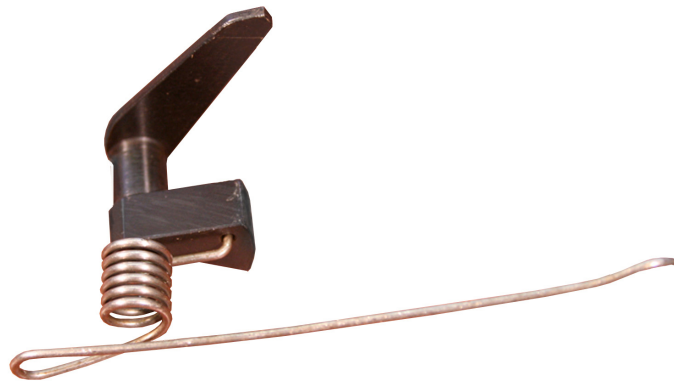

Figure 60. The Short Leg of the Auto Sear Spring Installed in the Auto Sear.
- a. Install the short leg of the auto sear spring in the auto sear. Refer to Figure 60.